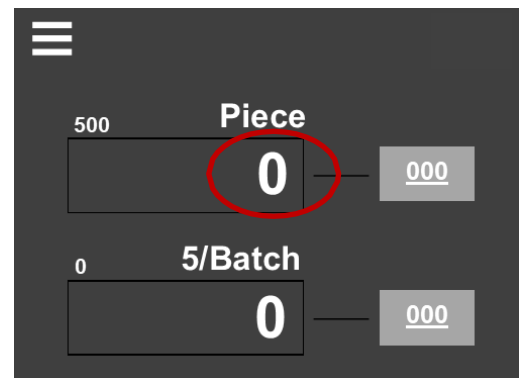

Figure 8.4.9
7. The crimping process can only be continued after the piece count has been subsequently zeroed out. See Figure 8.4.9.